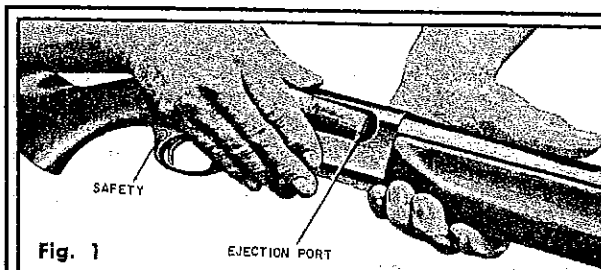

Fig. 1
**TO SINGLE LOAD and COCK** (Fig. 1) — Pull operating handle back until breech bolt locks back and opens action. Drop shell thru ejection port upon carrier. Close action by pressing magazine follower forward in magazine tube.